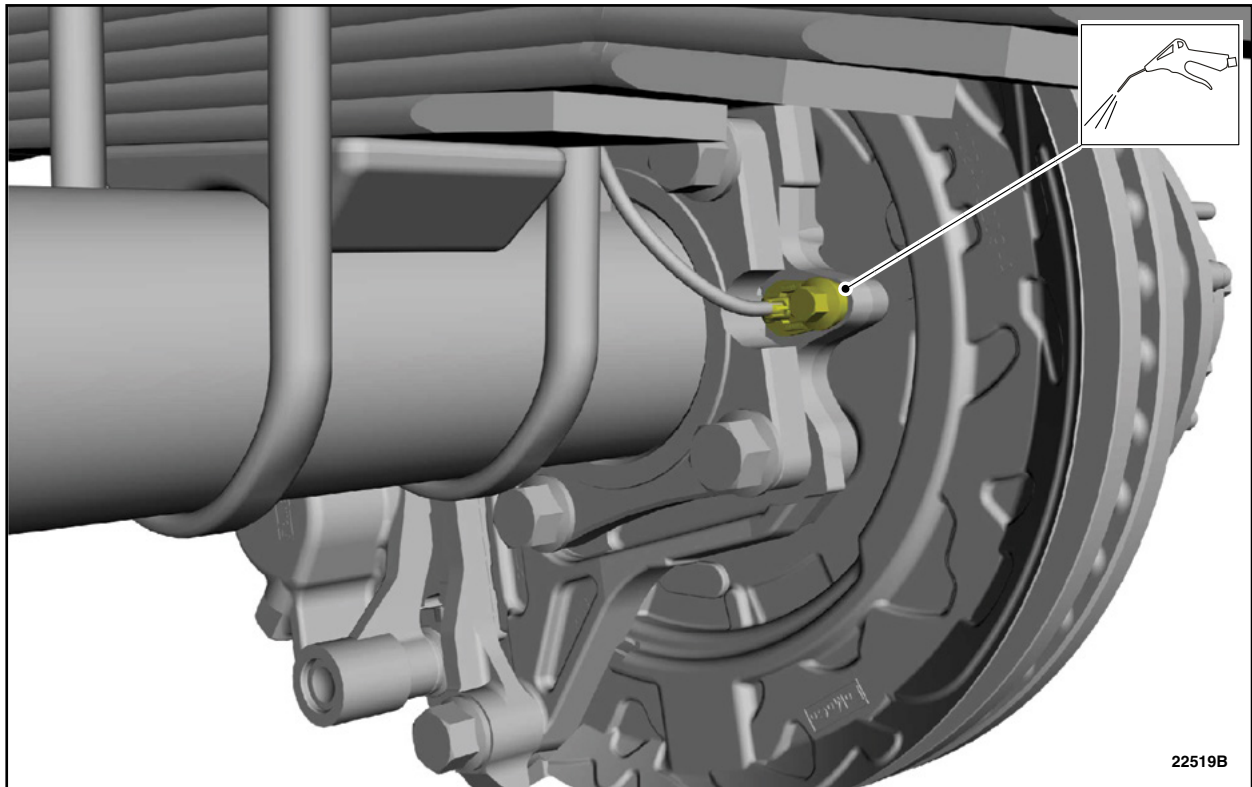

FIGURE 2
3. Using compressed air, clean both rear wheel speed sensor housing areas. See Figure 2.